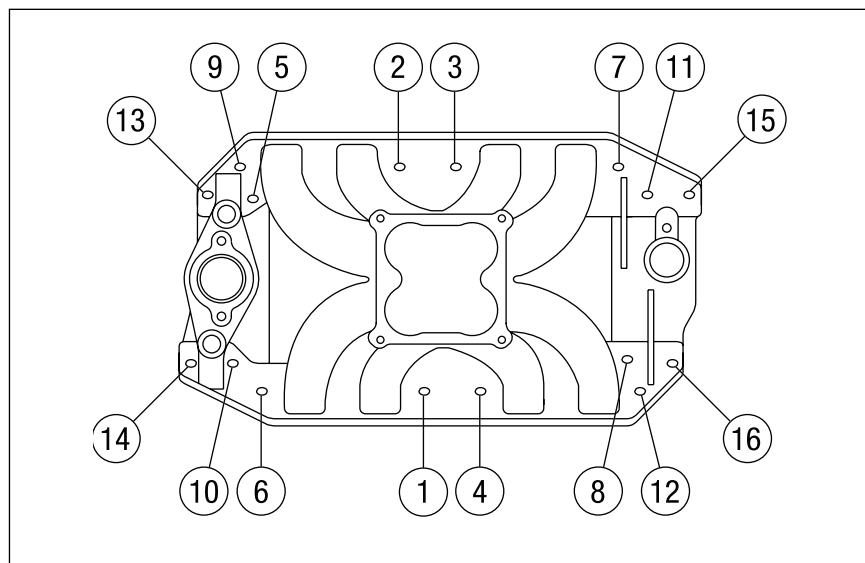

Figure 3 - Manifold Bolt Torque Sequence
4. Install the intake manifold and hold-down bolts. Torque the manifold bolts to 25 ft/lbs in small, even steps, following the factory recommended torque sequence **(See Figure 3)**. If you cannot fit a torque wrench on some of the bolts, use a small box end wrench to avoid over tightening.